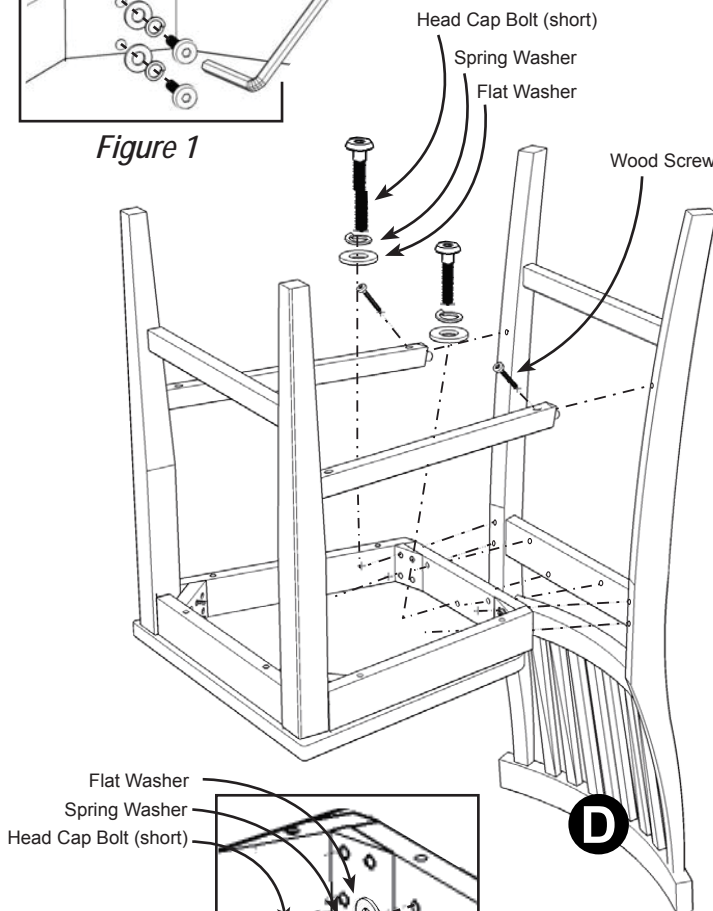
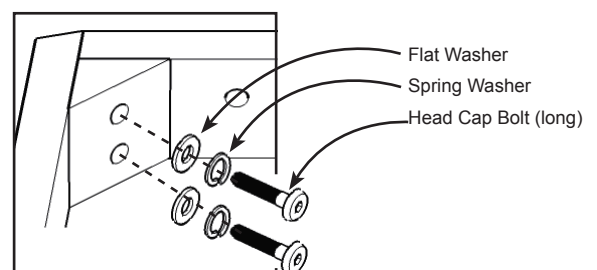

Figure 3
Figure 4
Attach Back Frame (D) to unit with Flat Washers, Spring Washers, Head Cap Bolts (short), Head Cap Bolts (long) and Wood Screws. (See Figure 3) and (See Figure 4)